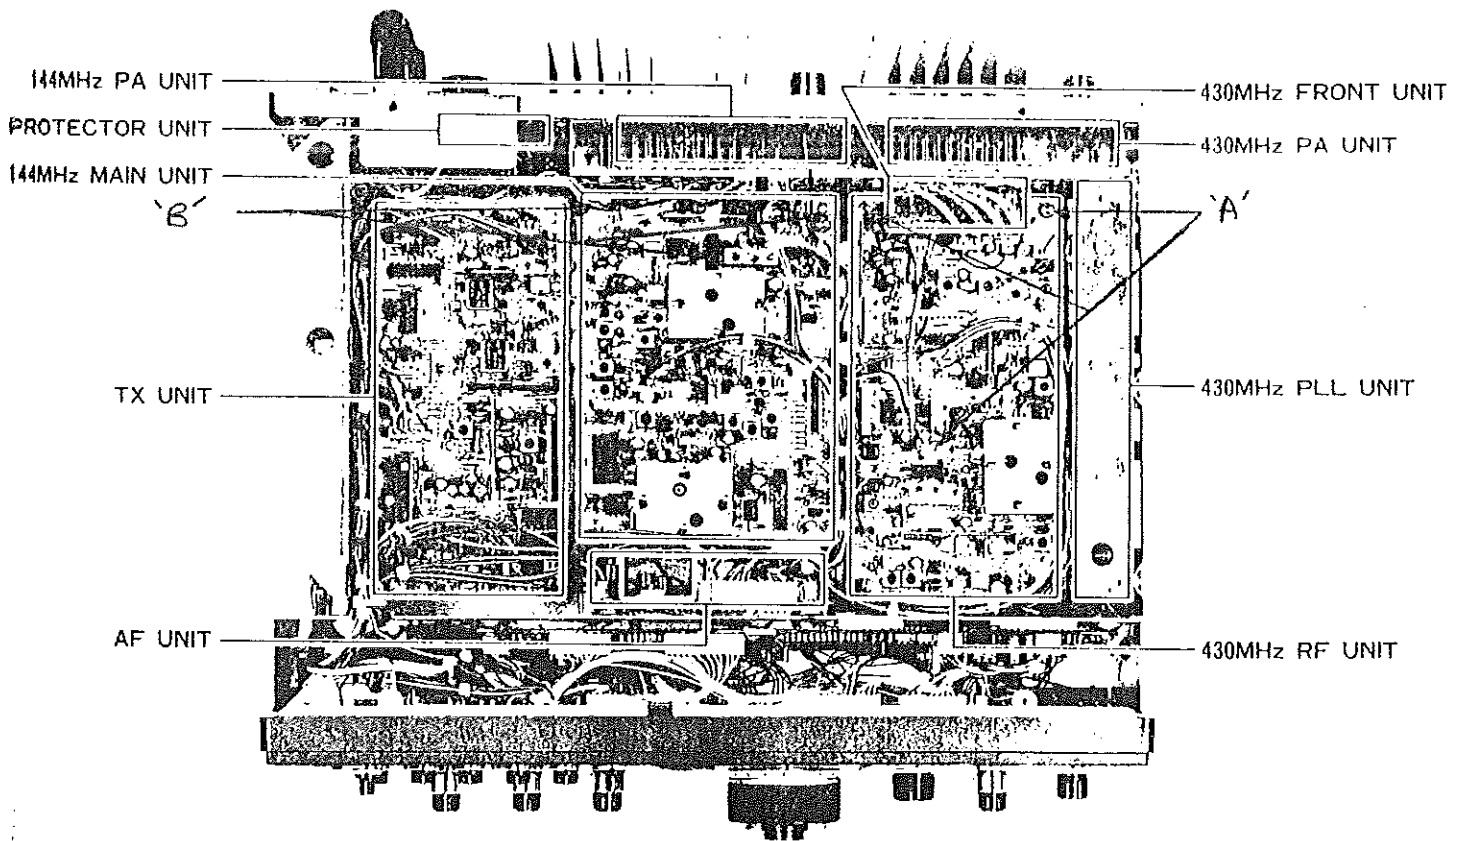
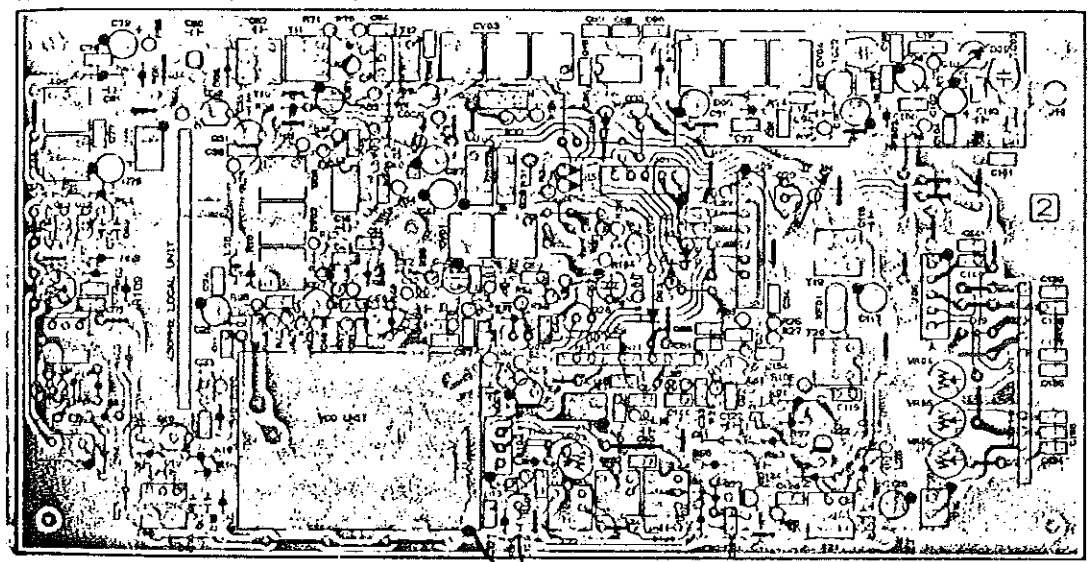
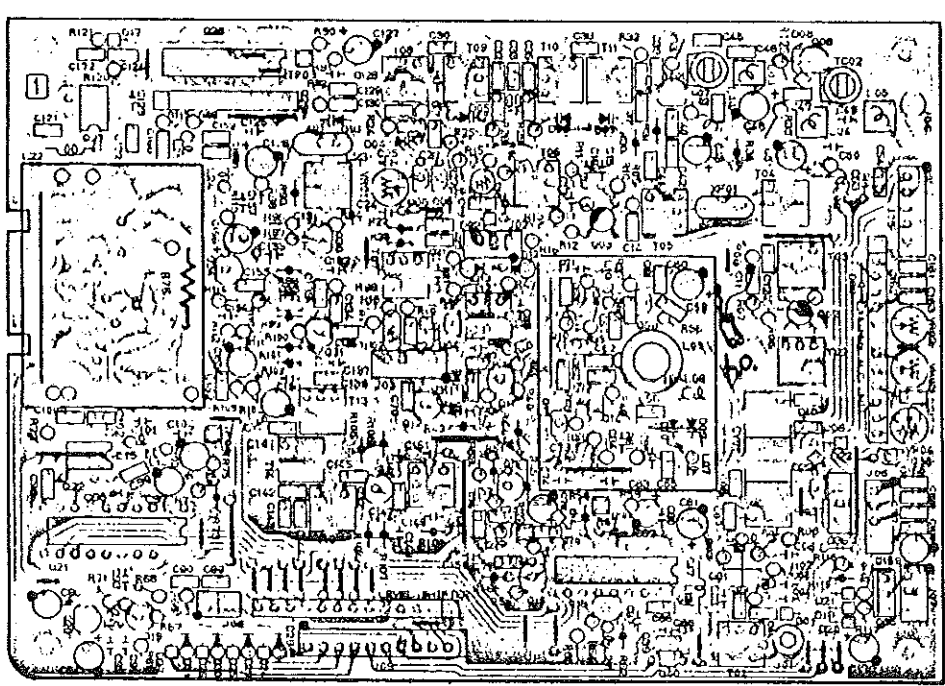

Figure 2
Figure 4
Figure 5
From the 430 MHz front end unit (this is the little can screwed to the back of the pa screen - see fig 2) remove:-
- 23) Place the heatsink assembly to one side. Return to the main chassis and remove the remainder of the plug in connectors from the 70 cms main unit. Remove the main unit pcb from the chassis. Using the M3 tap provided cut a thread in the three holes marked 'A' in fig 2. Remove C129 from the 70 cms main unit. See fig 4 for the location of this component. Solder the blue coded coaxial cable to the main unit as shown, the screen of the cable should be soldered to the vco screen and the core to the junction of D12 and R99. Desolder the original 1st IF input cable - this is no longer required. Replace the main unit in the chassis and secure with 2 self tappers at the front of the rig. Reconnect all of the plug in cables except J15 which will be connected to the new board. Carefully unwind the wire loops that secure the first LO cable along side the Tx strip screen.
- 24) Carefully remove all of the plug in connectors from the 2m main unit and remove the unit from the chassis. With the M3 tap cut threads in the three holes marked 'B' in fig 2. Desolder and remove C11 from the 2m main unit. Solder the red coded coaxial cable as shown in fig 5, the screen should be soldered to the screen of the VCO. Replace the unit in the chassis, again securing the unit with the two self tappers at the front of the rig. Replace all of the plug in connectors except J02 which will be connected to the new board.